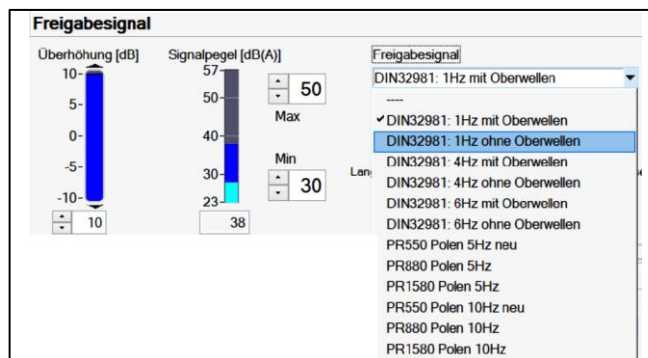

Fig. 30
- Selection of a standardised pedestrian crossing signal from the dropdown menu (3) and Fig. 30
- Setting the drop-off time (4)